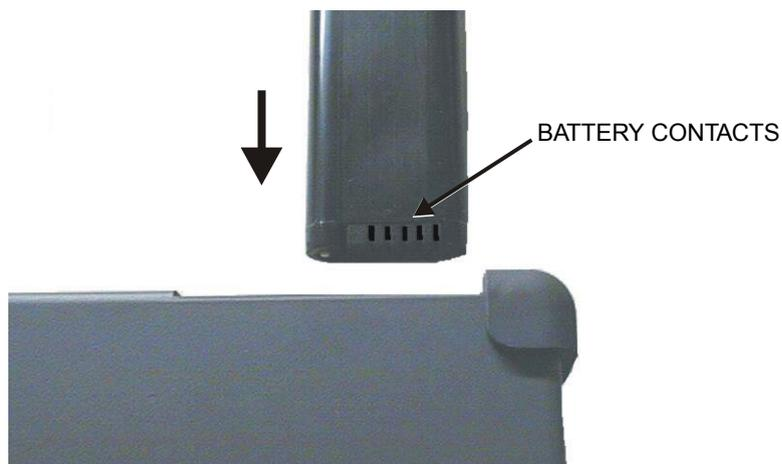

Figure 3-5. Battery Orientation/Contacts
5. Replacement is the opposite of removal. Note the orientation of the battery contacts, and be sure to insert the new battery with the contacts facing the rear of the unit, as illustrated in Figure 3-5.